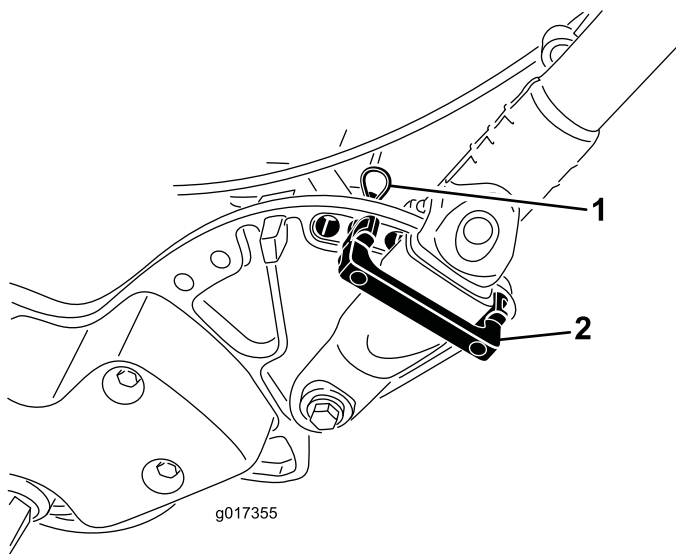

Figure 28
1. Remove the hairpin cotters from the handle retainers on each side of the mower (Figure 28).
2. While supporting the handle, remove the hairpin cotters from each side and pivot the handle to the desired operating position (Figure 28).